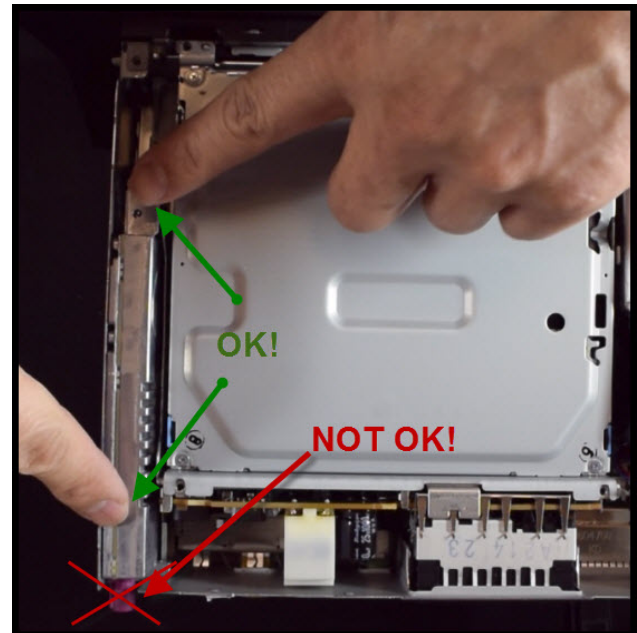

Figure 13. Do not press down using the purple FAKRA connector.
13. Place the new UMTS telephone module into the socket, making sure it is level before snapping it into place. Do not use the purple FAKRA connector for leverage. Press down only on the metal housing of the telephone module to prevent damage to the telephone module connector (Figure 13).